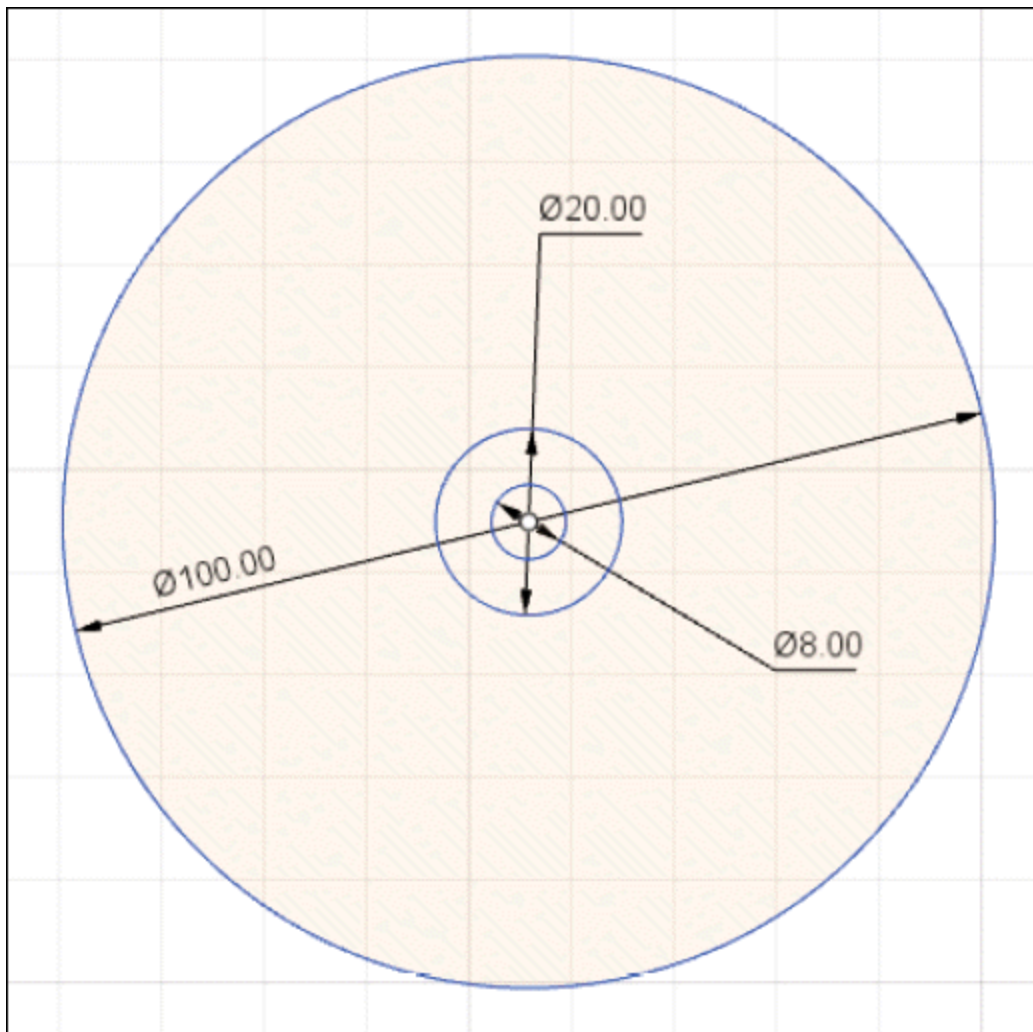

Figure-27. Creating circles
- Create three circle of **8**, **20**, and **100** as diameter dimension of circles; refer to Figure-27.